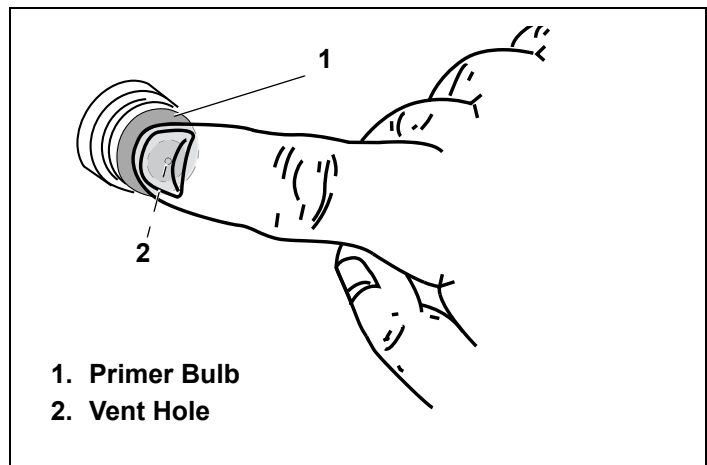

Figure 12. Pressing Primer Bulb
3. When starting a cold engine, push primer bulb firmly 3 times, allowing primer bulb to return completely to original position between pushes. See Figure 12.
Be sure to cover vent hole when pressing primer bulb. See Figure 12.